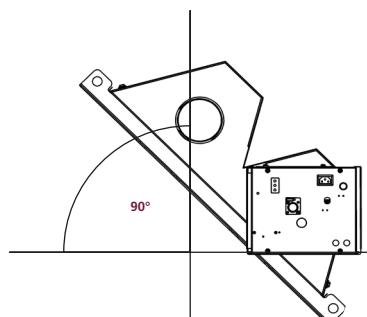
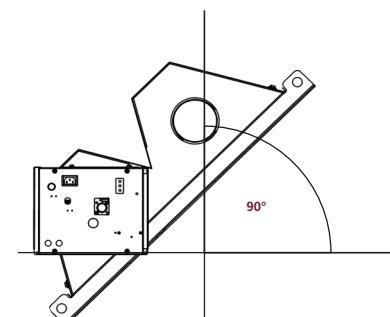

Figure 14.
Figure 15.
When Angle mounting a U tube heater, the burner MUST be located on the bottom (lowest) tube (see Figure 14 & Figure 15)
**Note:** The burner MUST be positioned on the lowest side of the heater and mounted on a level horizontal plane. This is to ensure the gas valve coils are not installed beyond 90° from the upright position. See Figure 14.
**Note:** The burner and outlet tubes may be reversed on U-Tube models 30-50 to allow more flexibility when angle mounting. See Figure 15.